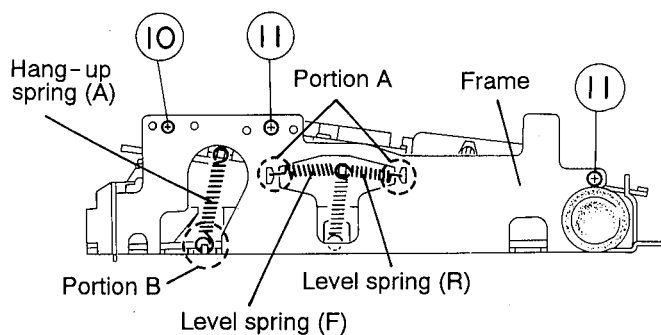

Fig. 4-14
4. Remove only the portion A of four level springs (F and R) on the right and left sides of the CD mechanism assembly (See Figs. 4-14 and 4-15).
5. Remove only the portion C of two hang-up springs (A) on the right and left sides of the CD mechanism assembly (See Figs. 4-14 and 4-15).
7. By removing four screws (9 × 2 and 10 × 2) retaining the TTB guide bracket, dismount the disc guide from the frame (See Figs. 4-14, 4-15 and 4-18).
10. From both sides of the frame, remove four screws (11) retaining the damper (See Figs. 4-14 and 4-15).
6. Tighten four screws retaining the right and left side dampers (See Figs. 4-14 and 4-15).
9. Set the respective springs to the specified positions (See Figs. 4-14 ~ 4-17).